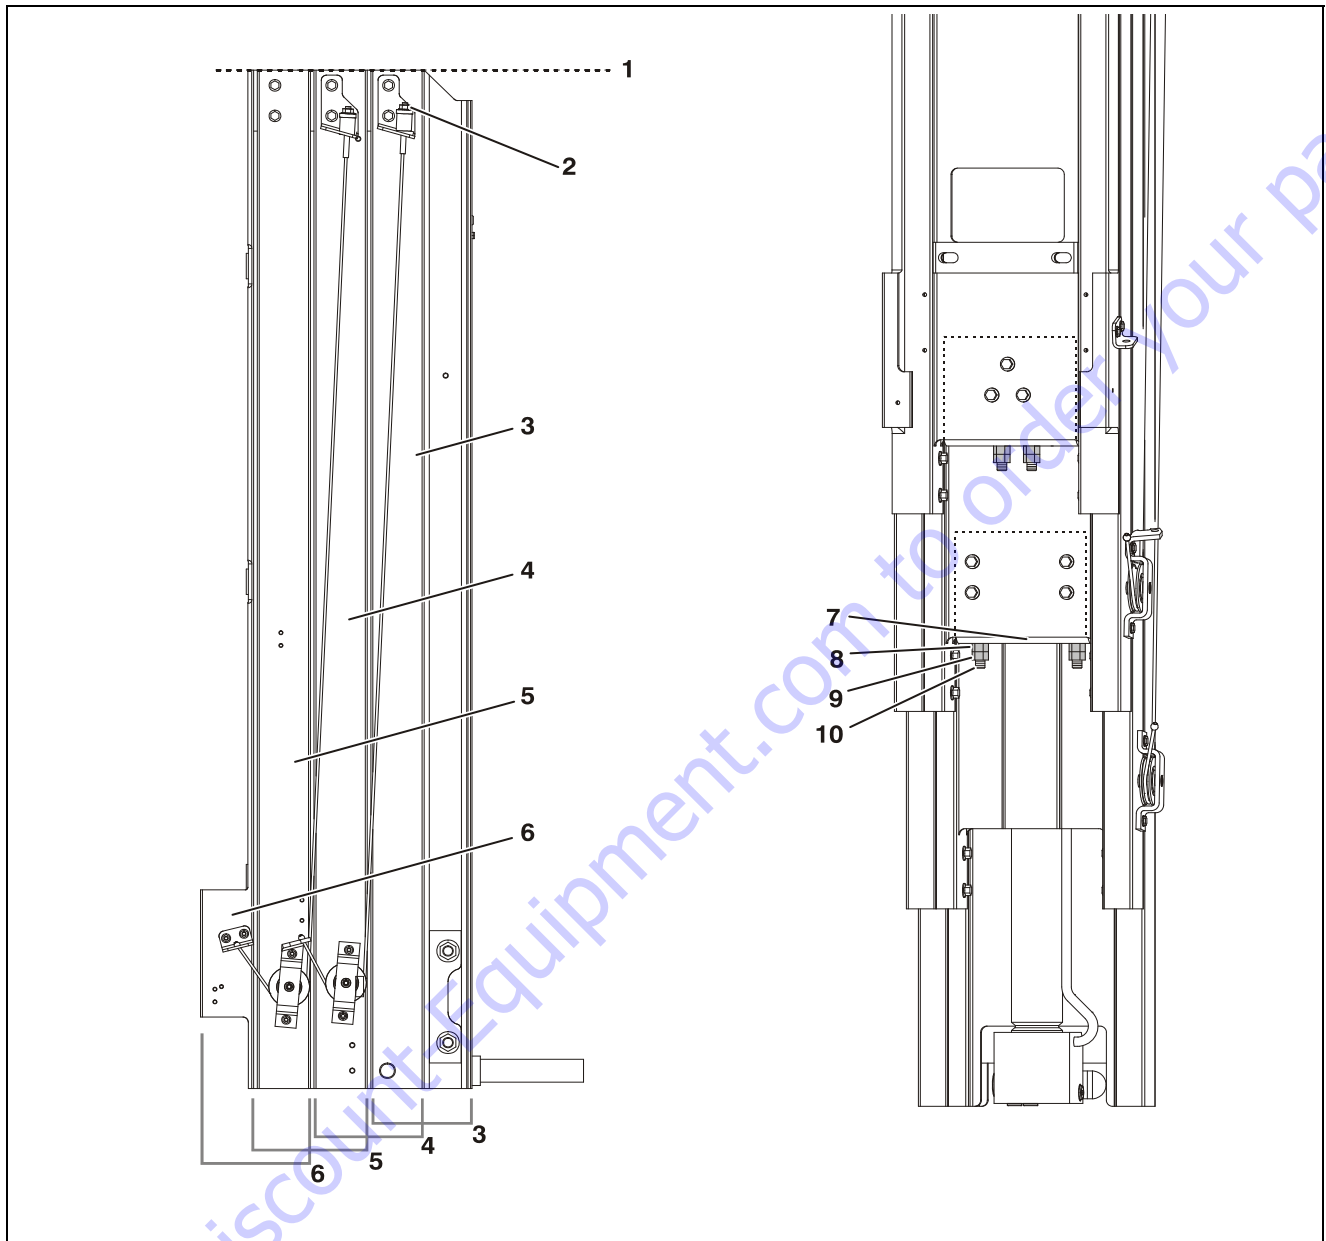

Figure 5-9. Mast Chain and Sequence Cable Adjustment Components
This procedure will ensure equal load distribution between the individual chains of a mast section chain sets. Refer to Figure 5-9.
3. Have the operator exit the platform, then check the side profile of the top of the mast. The mast sections should all be even at the top and not stepped. (Refer to Figure 5-9.)
8. Fully retract the mast all the way and check if the top of the mast sections appear as shown in Figure 5-9.